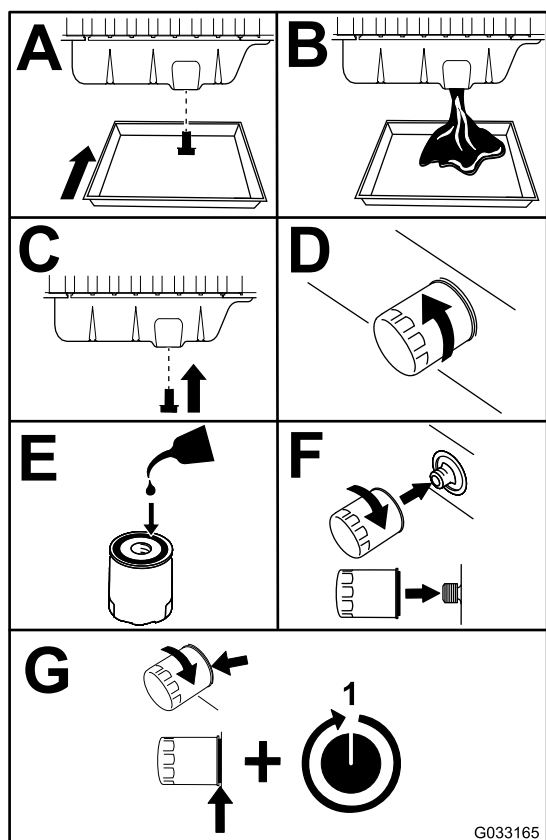

Figure 52
3. Replace the engine oil and filter (Figure 52).